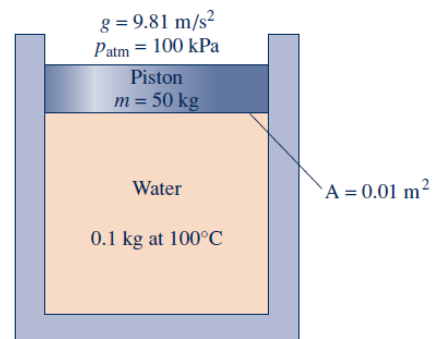

Fig. P3.21
3.21 As shown in Fig. P3.21 0.1 kg of water is contained within a piston–cylinder assembly at 100°C . The piston is free to move smoothly in the cylinder. The local atmospheric pressure and acceleration of gravity are 100 kPa and 9.81 m/s^2 , respectively. For the water, determine the pressure, in kPa , and volume, in cm^3 .